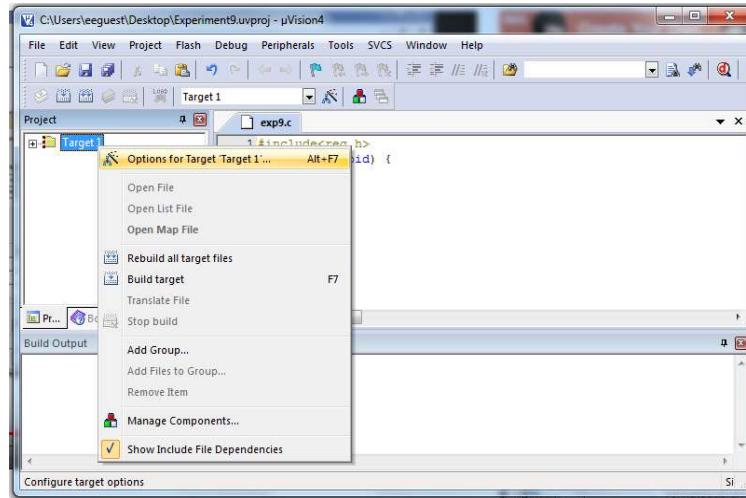

Figure 9.9: Options for Target dialogue box.
- 9) Right click on Target 1 and go to “Options for Target...” as shown in Figure 9.9.